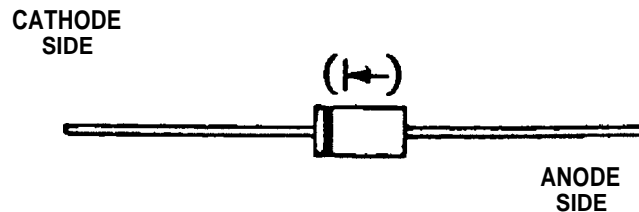

FIGURE 2-18. Diode Identification
- i. Connect positive lead of multimeter to cathode side and negative lead to anode side of each diode CR1, CR2, CR3, and CR4. Refer to FIGURE 2-18. Note ohms indication on multimeter for each diode.